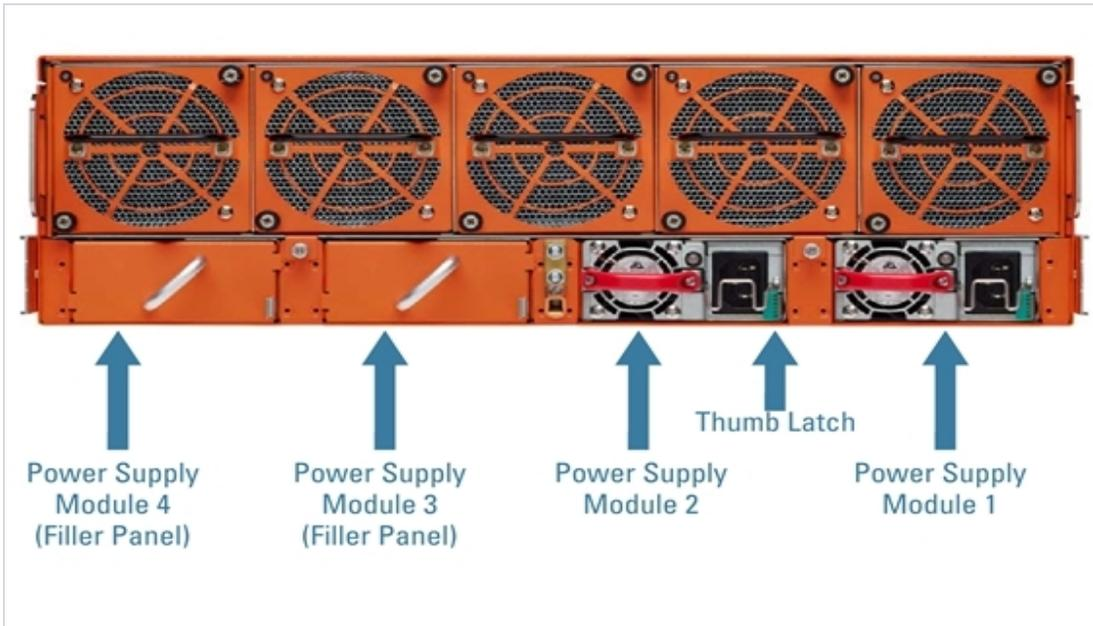

Figure 5: Power Supply Modules (AC Version Shown)
3. Carefully slide the first PSM into the matching receptacles at the lower rear of the node (Figure 5: Power Supply Modules \(AC Version Shown\) on page 56). Push gently to seat the PSM firmly in the chassis until the thumb latch snaps into place.
**NOTE:** If using two PSMs, leave filler panels in as shown in Figure 5: Power Supply Modules \(AC Version Shown\). The filler panels aid in air flow distribution. If a PSM fails, leave it in the chassis.